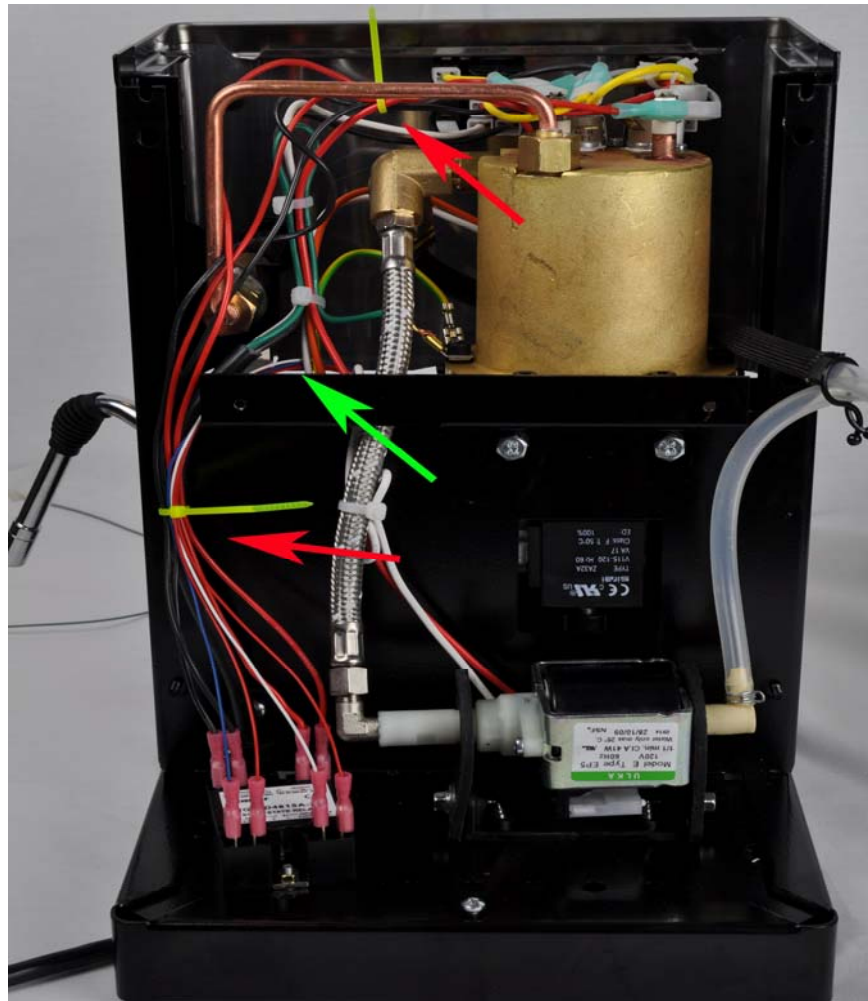

Figure 20. Tied up the cables
- 4) Tie up the cables with the cable tie as shown by the red arrows. The green arrow shows that the SSR input cables are introduced to the front of the espresso machine through the gap around the steam wand (see Figure 20 below for more details).